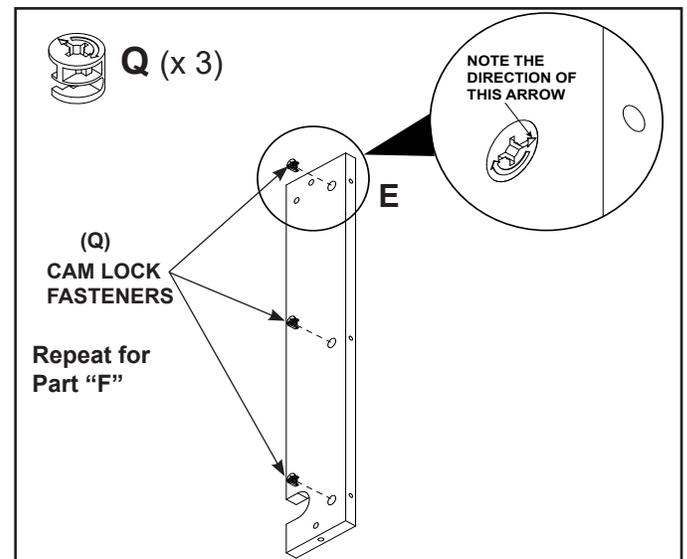

Figure 9
- Install three (3) Cam Lock Fasteners (Q) into part “E” with the arrows in the orientation shown on page 2 and Figure 9. Repeat for part “F”.